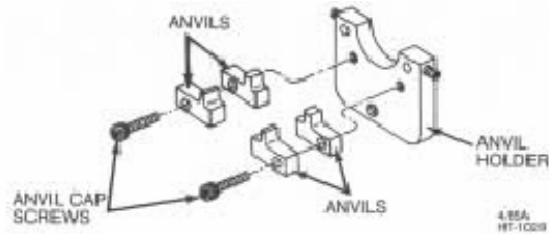

Figure 8
3. Remove the cap screw and defective anvil(s) from the anvil holder (see Figure 8).
1. Loosely install the new anvils to the anvil holder with the attaching cap screw (See Figure 8).